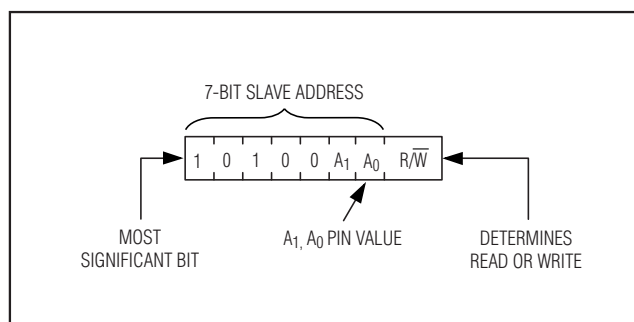

Figure 10. DS3882's Slave Address Byte
**Slave Address Byte:** Each slave on the I2C bus responds to a slave addressing byte sent immediately following a start condition. The slave address byte (Figure 10) contains the slave address in the most significant seven bits and the  $\overline{R/\overline{W}}$  bit in the least significant bit. The DS3882's slave address is 10100A1A00 (binary), where A0 and A1 are the values of the address pins (A0 and A1). The address pin allows the device to respond to one of four possible slave addresses. By writing the correct slave address with  $\overline{R/\overline{W}}$  = 0, the master indicates it will write data to the slave. If  $\overline{R/\overline{W}}$  = 1, the master will read data from the slave. If an incorrect slave address is written, the DS3882 will assume the master is communicating with another I2C device and ignore the communications until the next start condition is sent.